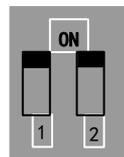

Fig 4-4
- (2) Press the “Fun” key, to enter the programming menu.
- (3) Study the parameters of the motor: the operation process is the same as that of example 1.
- (4) Set functional parameters of the inverter:
- ① Enter F203 parameter, and set it to 1; select the mode of frequency setting of analog AI1, 0~10V voltage terminal;
- ② Enter F208 parameter, and set it to 1; select direction terminal (set OP6 to free stop, set OP3 to forward running, set OP4 to reverse running) to control running;
(5) There is a red two-digit coding switch SW1 near the control terminal block of 15 KW inverter and below 15kw , as shown in Figure 4-4. The function of coding switch is to select the voltage signal (0~5V/0~10V) or current signal of analog input terminal AI2, current channel is default. In actual application, select the analog input channel through F203. Turn switches 1 to ON and 2 to ON as illustrated in the figure, and select 0~20mA current speed control. Another switches states and mode of control speed are as table 4-2.